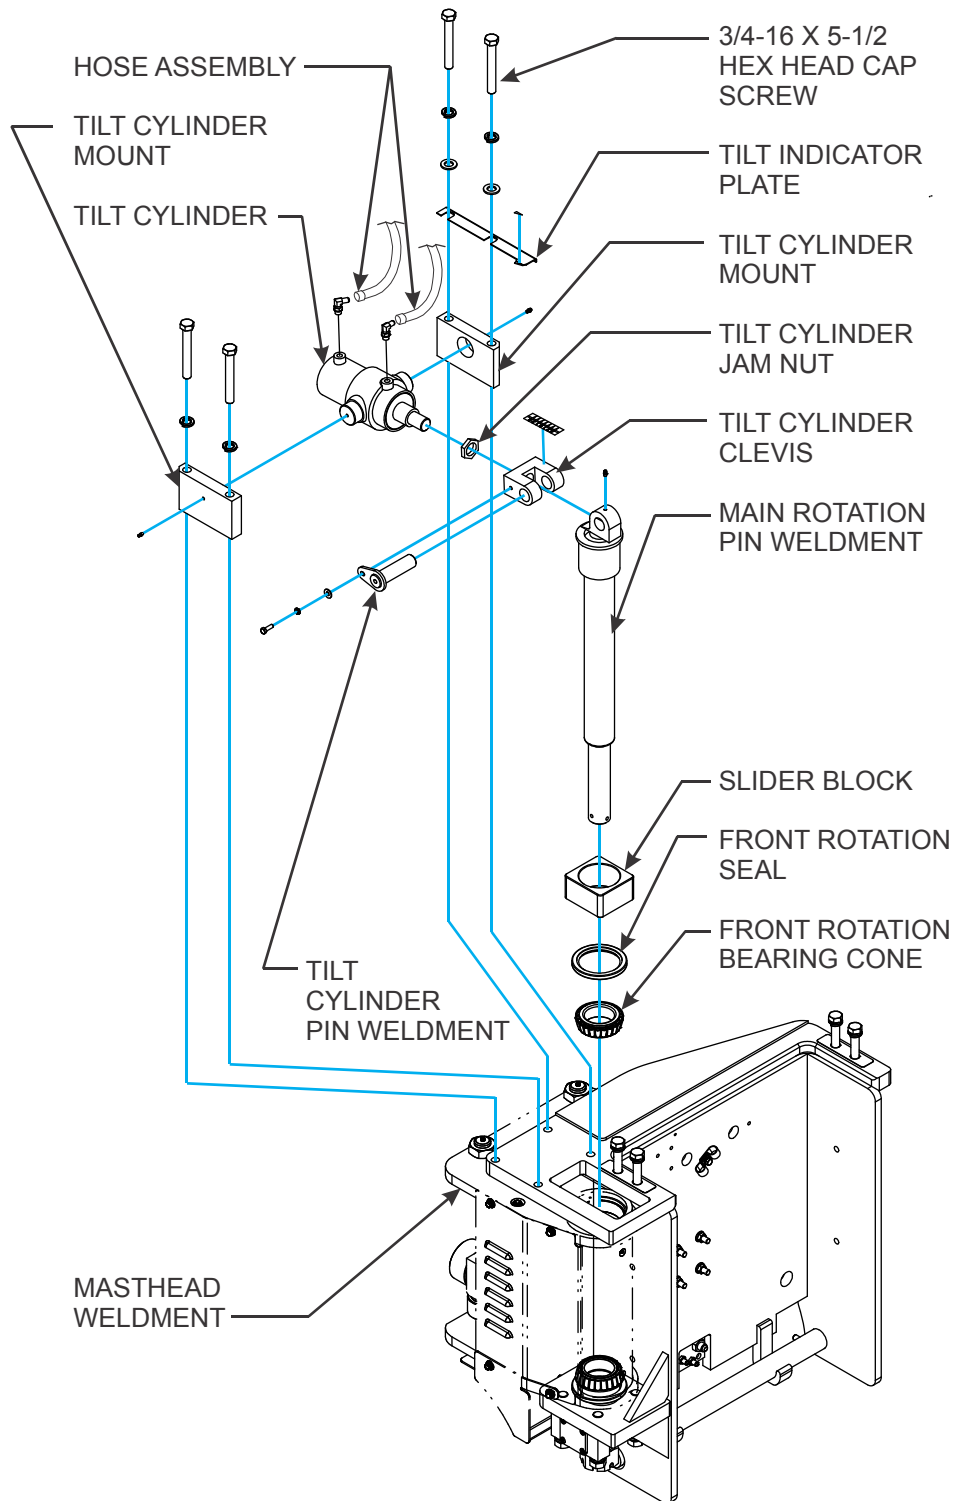

Figure 3-4: Masthead Assembly (2 of 3)
4. Remove tilt cylinder pin weldment (See Figure 3-4).
13. Using the hoist lift up the mast and the masthead weldment until the main rotation pin weldment becomes free (See Figure 3-4).
2. If the cylinder is being removed, disconnect the two hydraulic hoses from the tilt cylinder, shown in See Figure 3-4. Cap and plug the hoses and cylinder ports. Also tag the hoses for identification. Have rags handy to soak up oil spills.
4. On the mast end of the cylinder, remove the bolt and hardware from the tilt cylinder pin weldment and remove the pin from the tilt cylinder clevis (See Figure 3-4).
2. Remove front rotation seals (See Figures 3-4 and 3-5).